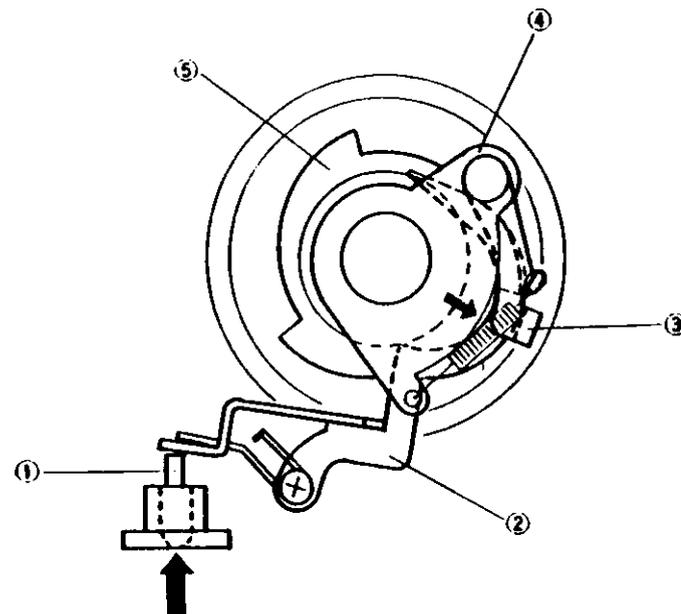

Fig. 11
- 2) Fig. 11 indicates the condition in which the ME button has been depressed. (Multi exposure)